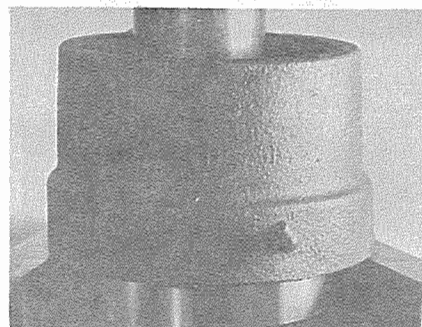

Figure 12
2. Support the inboard end of the control hub and press the bearing and brass seal ring from the hub (Figure 12).